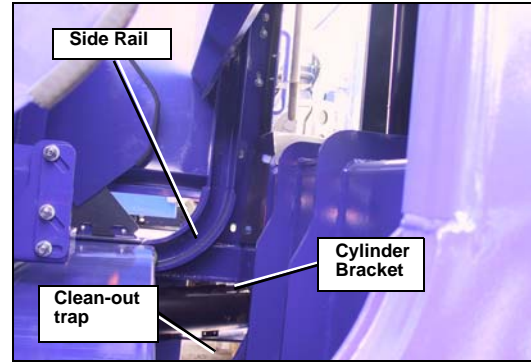

Figure 30. Cylinder bracket and side rail
14. Remove all accumulated dirt under the cylinder brackets and side rails (see Figure 30. "Cylinder bracket and side rail") using a scraper or pressurized water.